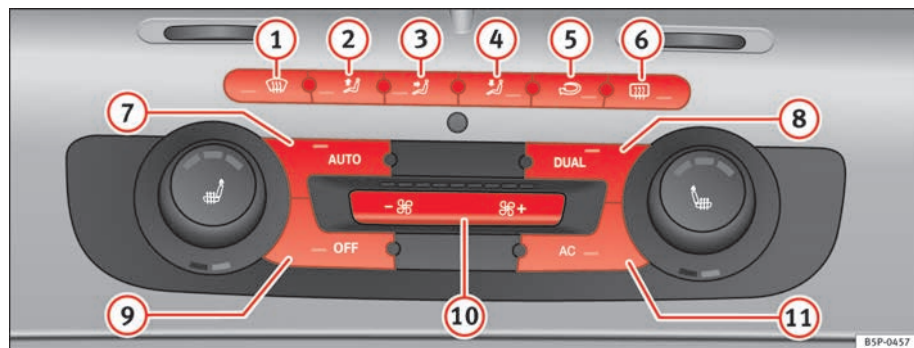

Fig. 134 On the instrument panel: 2C Climatronic controls.
- To enter manual mode, press one of the buttons ⇒ fig. 134 ① to ⑤ or press the air flow control ⑩. The selected function is shown on the radio or navigator display.
- Press the button  ⇒ page 162, fig. 134  to switch air recirculation mode on or off. It is switched on if the following symbol appears in the display .